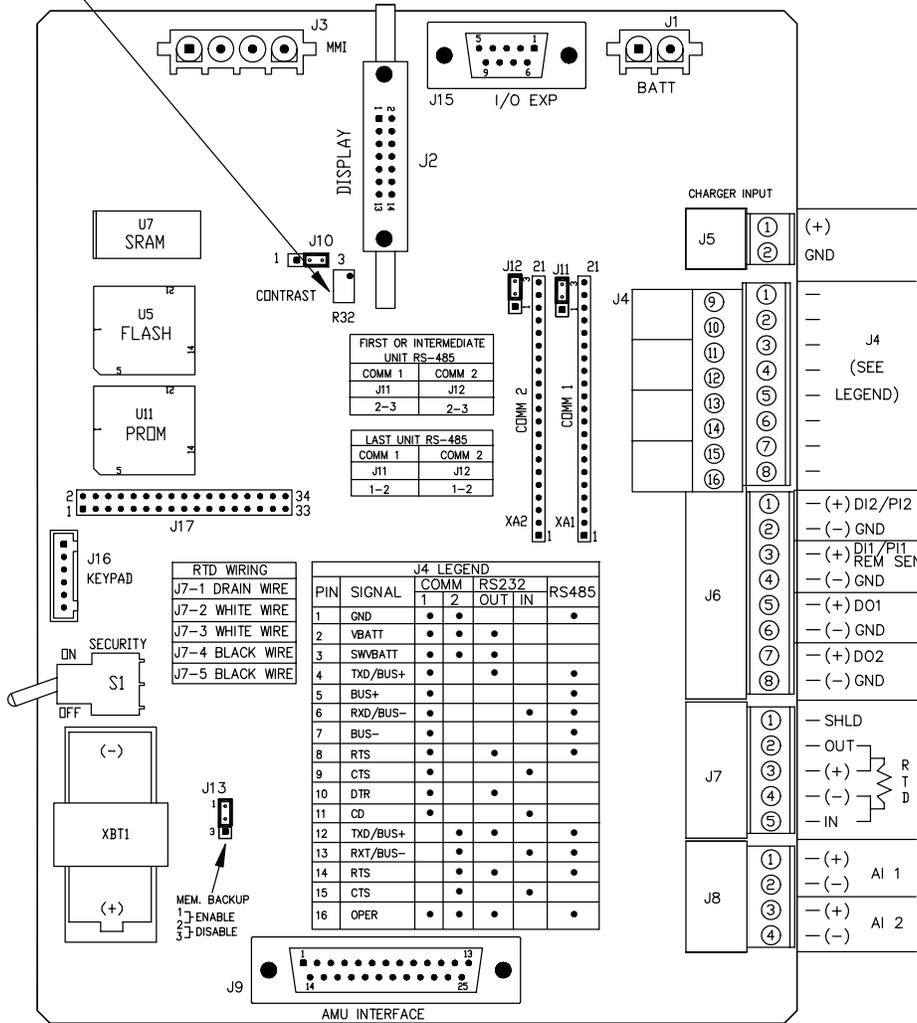

Figure 5 (XFC Layout)
7. Install RTD and connect wiring to connector block J7 on the XFC board. The XRC board does not have RTD inputs. (See Figure 5)
8. Verify that *Memory Backup* is *Enabled*. This is J13 on the XFC and J1 on the XRC. (See Figures 5 & 6)
9. Mount and connect a *fully charged* battery to J1 on the XFC board or J16 on the XRC board. The connectors are located in the same position on both boards. (See Page 7 & Figures 5 & 6)
5. Connect RTD probe to the XFC's RTD connector as follows: Before making connections to terminal block, remove spade lugs if attached and trim wire ends back 1/4". Remove J7 terminal block from the XFC main electronics board. (See Figure 5)
8. The Solar Panel power cable connects to XFC terminal block J5 or XRC terminal block J17 Charger Input terminals. Refer to Figure 5 or 6 for terminal locations. Remove one of the hole plugs and install cord connector. Remove nut, sealing ring and rubber grommet from cord connector. Slide nut, sealing ring and grommet over cable and insert cable through body of cord connector. Allow enough cable to extend into the unit for connection to Charger Input +/- terminals.